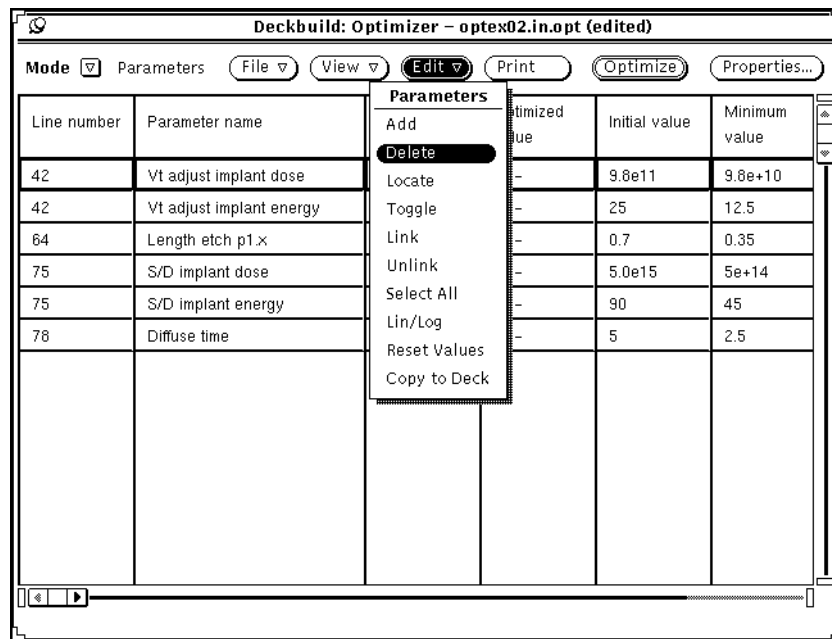

Figure 6-7: Deleting a Parameter
1. Place the pointer anywhere in the row to be deleted and double-click the **SELECT** mouse button to make a row selection. The row then appears raised (Figure 6-7).